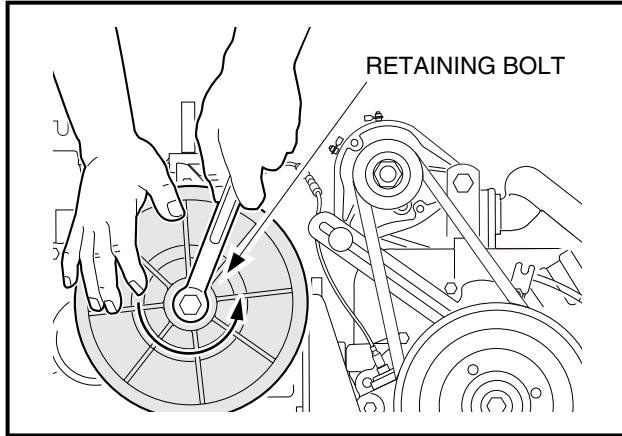

Figure 16-33 Driven Clutch
17. Remove the driven clutch retaining bolt and remove the driven clutch from the unitized transaxle (**Figure 16-33, Page 16-15**).